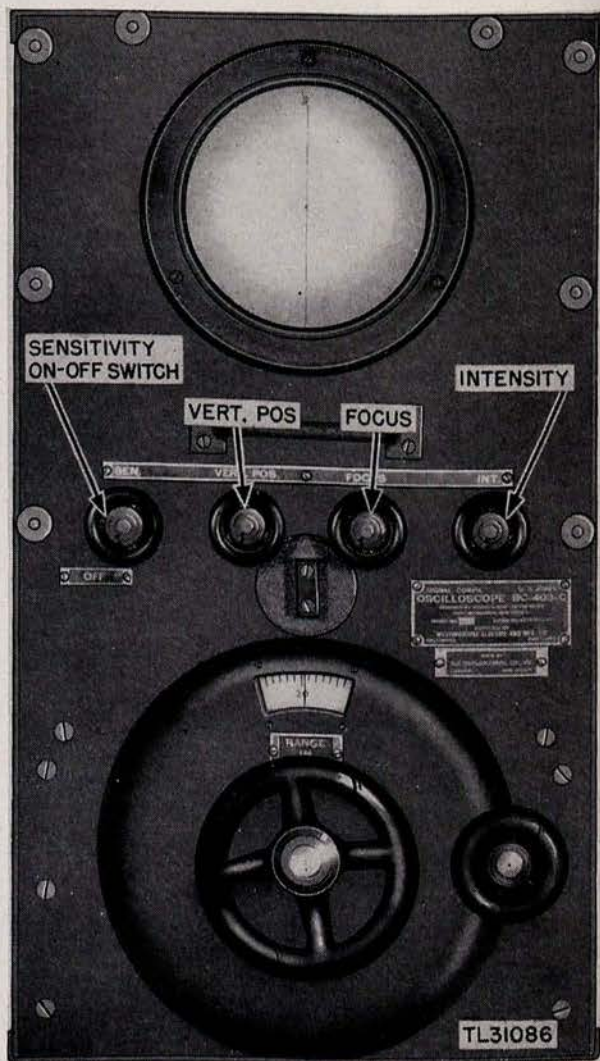

Figure 30. Oscilloscope BC-403-C, showing controls.
48. Turn Oscilloscope Power Switch 60-1 On (fig. 30)